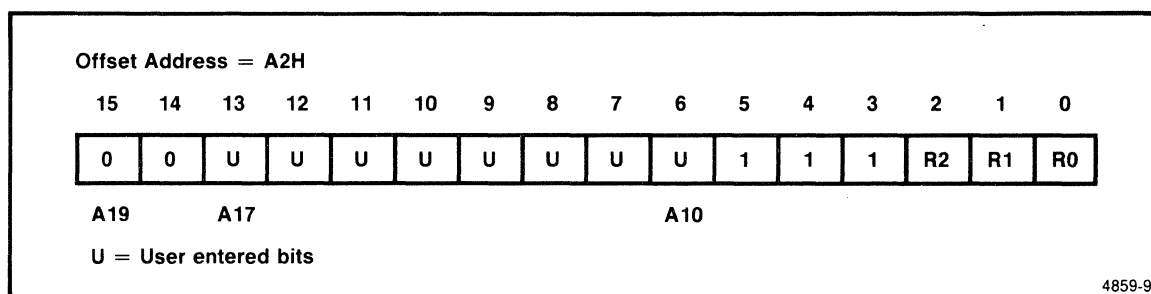

Figure 2-8. LMCS Register format.
The 80186 generates a lower memory chip-select output LCS(L) when accessing a memory block located at the bottom of memory. The lower limit of the memory block defined by this chip-select is always 00000. You can program the upper address limit of the block, permitting a block size from 1K bytes to 256K bytes. Table 2-6 shows the relationship between the starting address (upper address limit) selected and the size of the memory block. The lower memory block is defined in the LMCS Register. Figure 2-8 shows the bit format for the LMCS Register.